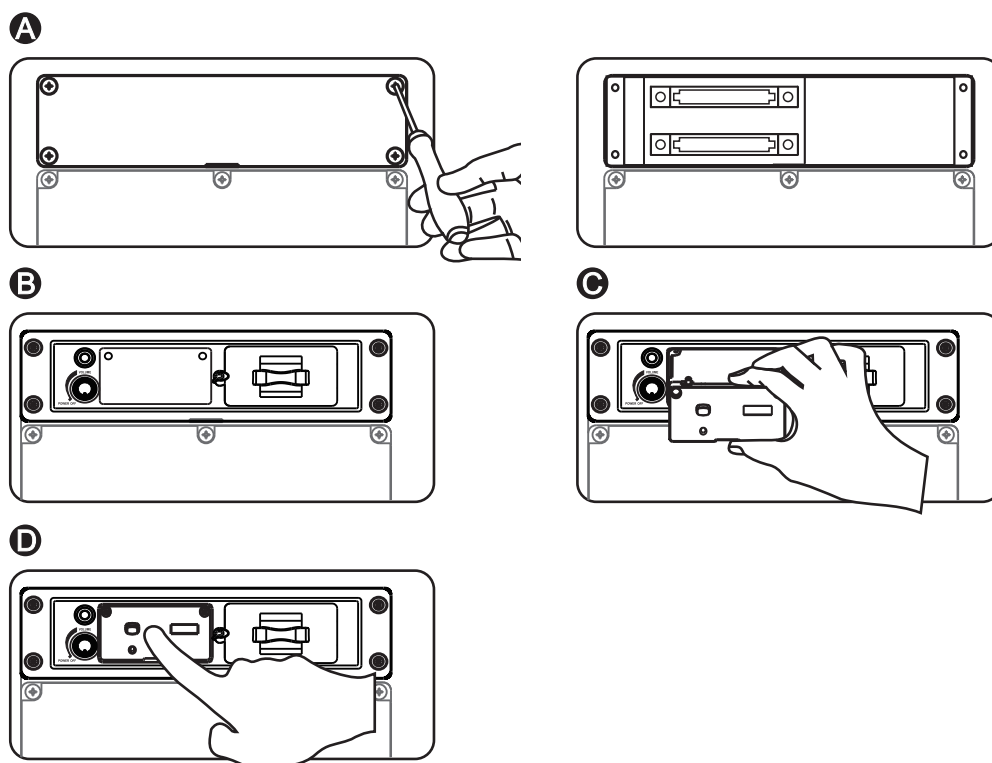

Fig. 11
1. Users have options to add wireless interlinking transmitter module in this slot. Fig. 11